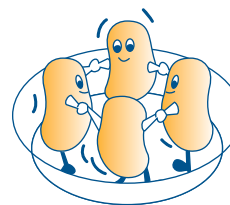

fig. 10
- 5) If you are preparing a large number of portions of the same food item (e.g., boiled potatoes), **place** those portions in a Pyrex dish in order to have them cook in a uniform manner (see Fig. 10).